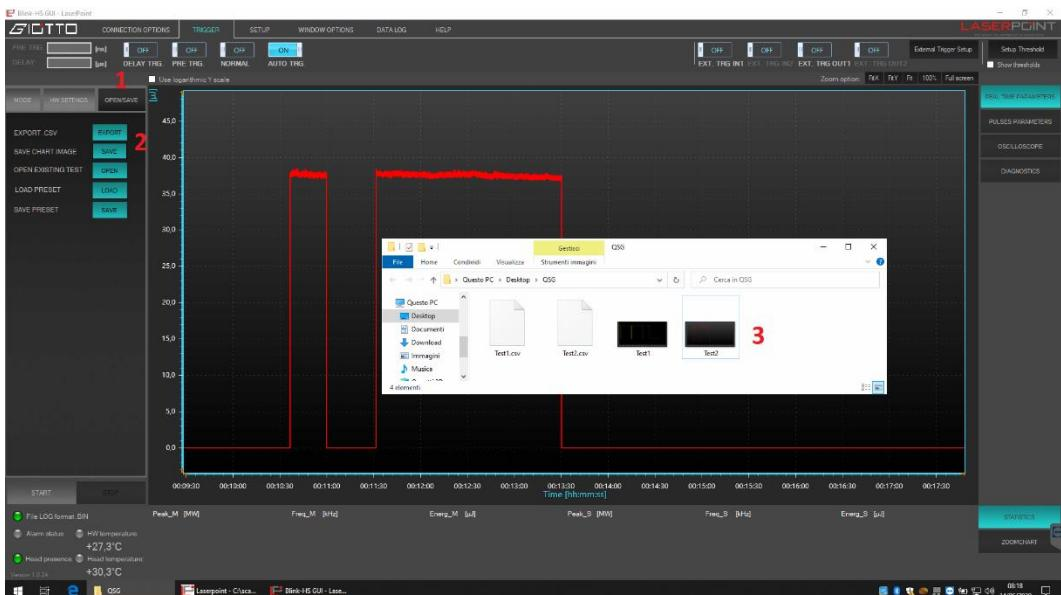

Figure 33
- Following acquisition stop, the user can save the acquired data (1, fig.33), in csv or save chart image in png format (2, fig.33), then files position is shown (3, fig.33)
Four examples of CSV files downloaded from open/save menu and Log file (Figure 33):